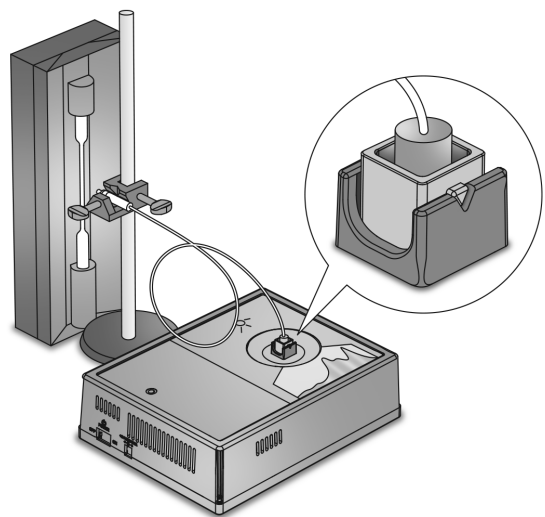

Figure 1. A setup showing the fiber optic cable installed in the UV-Vis Spectrometer and pointed at a light source.
3. Insert the reflective cuvette into the UV-Vis Spectrometer. Align the triangle on the cuvette with the notch on the test chamber (Figure 1).